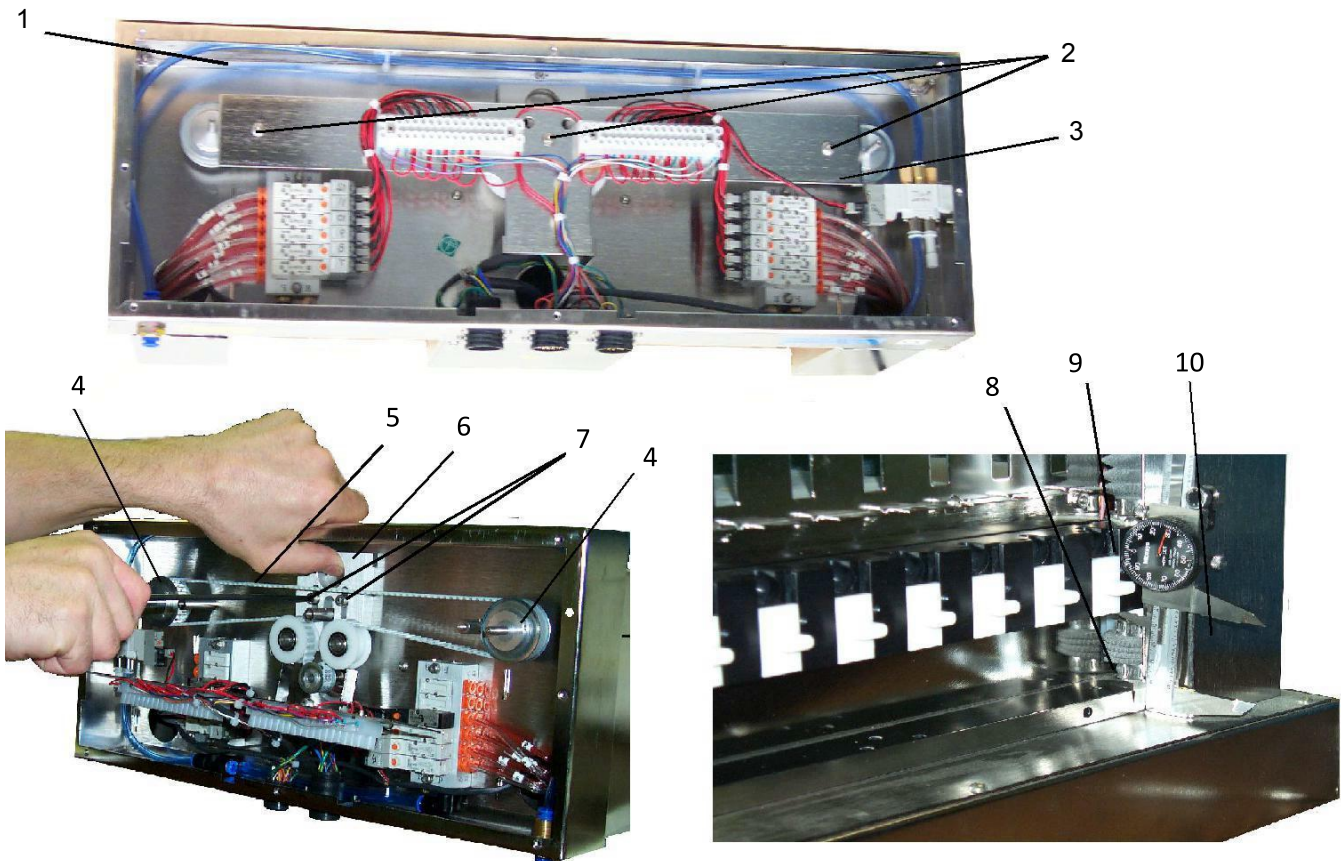

Figure 5.4 Actuator Module Assembly/Disassembly
5.5.3 Assembly/Disassembly Procedures (Figure 5.4)
1. Using calipers (10), measure the left side of Actuator Module (1) between the bottom of slide assemble (9) and plate (8). Record the measurement.
2. Turn the right side belt pulley (4), while measuring the right side of Actuator Module (1) between the bottom of slide assemble (9) and plate (8), until the measurement is the same as recorded in step 1.
3. Position belt (5) over gears (4) then remaining gears as shown in Figure 5.4 trying not to move gears (4).
4. Place your hand as shown in Figure 5.4 and move belt tensioner (6) upward until you feel tension.
5. Check belt (5) tension by moving the belt up and down in the area between screws (7). The belt should move approximately +/- 6.4mm (1/4").